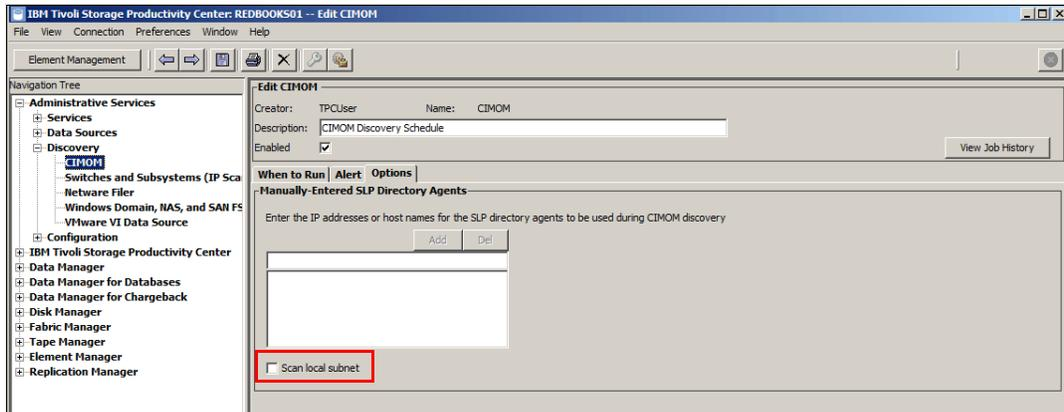

Figure 9-11 Disable automatic CIMOM discovery
**Suggestion:** In most environments, we find that using CIMOM discovery does not have a large advantage, simply because most CIMOMs have security turned on, which means Tivoli Storage Productivity Center is unable to get a list of devices from the CIMOM. To disable SLP-DA and automatic discovery, do not add any IP of SLP agents and uncheck the box for local subnet scanning as shown in Figure 9-11 on page 375.